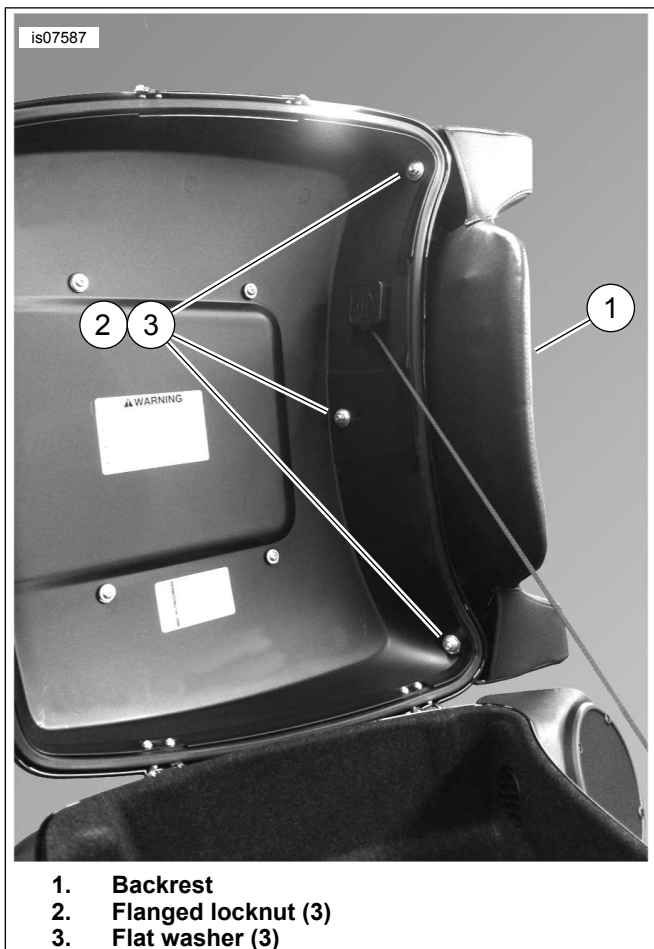

Figure 1. Mounted Backrest on King Tour-Pak Lid
1. See Figure 1. Align the three studs on the backrest (1) with the drilled holes in the Tour-Pak lid. Fasten finger-tight with flanged locknuts (2) and flat washers (3) from the kit.